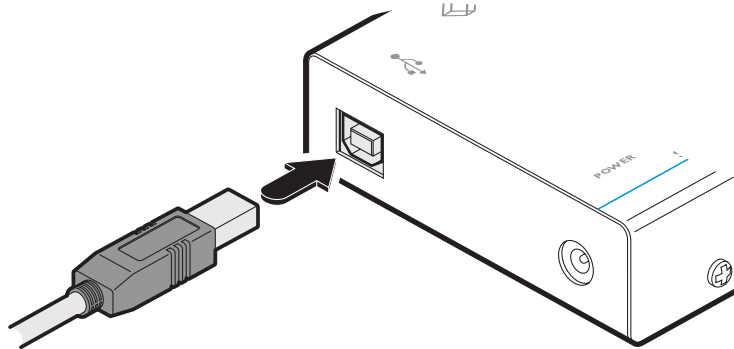

Figure 3-5. Attaching the USB link cable
- 1 Use the supplied USB cable to link the USB socket of the local module to a vacant USB socket on the computer as shown in Figure 3-5: